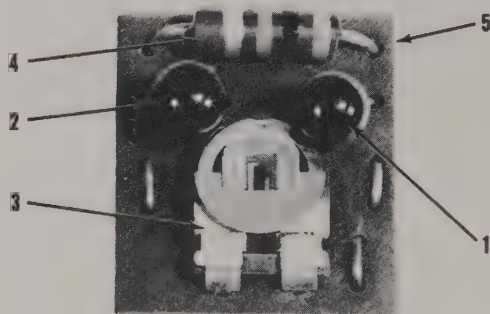

Figure 4-4. Electronic Overload Switch Sub-assembly.
e. Use a NONCONDUCTING screwdriver and adjust the variable resistor (3, figure 4-4) until the Reset Button (See figure 3-1) "POPS OUT".